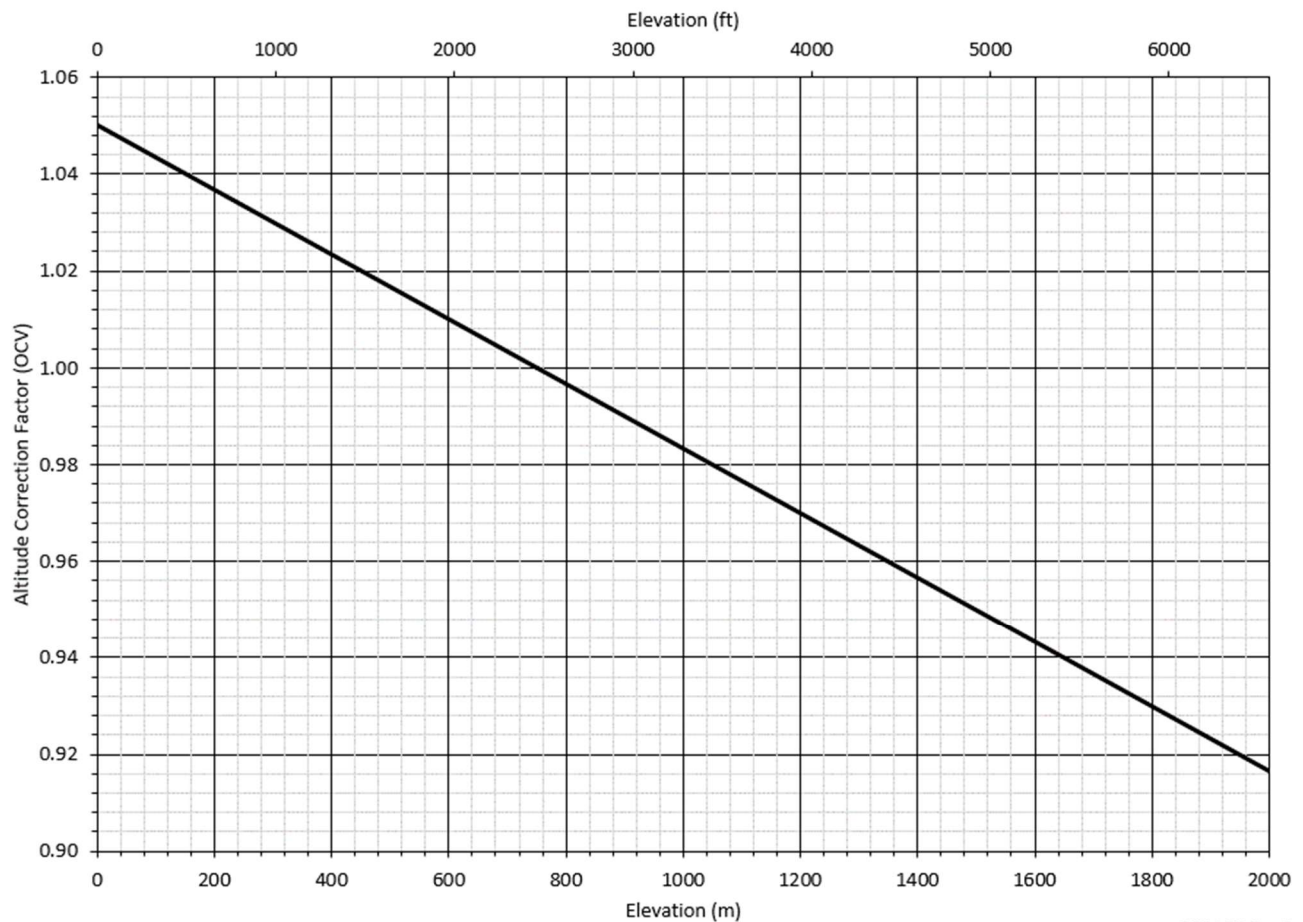

Figure 14 – OCV Altitude Correction Factor
The Sentinel TEG is set at the factory's altitude (see Data Plate in Figure 1). If the site altitude is different from the factory altitude, use the graph in Figure 14 to determine the altitude correction factor.
1. Determine the site's altitude and find that number on the graph in Figure 14. The altitude, in meters, is located at the bottom of the graph and the altitude in feet are at the top of the graph.